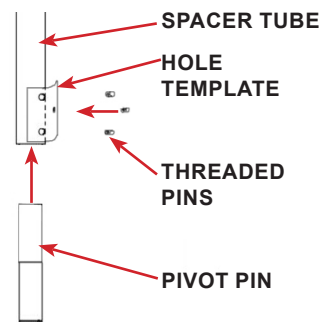

FIGURE 2.24 - Pivot Pin
STEP 5: Use the hole location template to mark new hole locations on the post. Refer to FIGURE 2.24
STEP 9: Secure the pivot pin using the three threaded pins, ensure 4.3" of the spacer tube is exposed. Reinstall the base plate cover onto the spacer tube. Refer to FIGURE 2.24